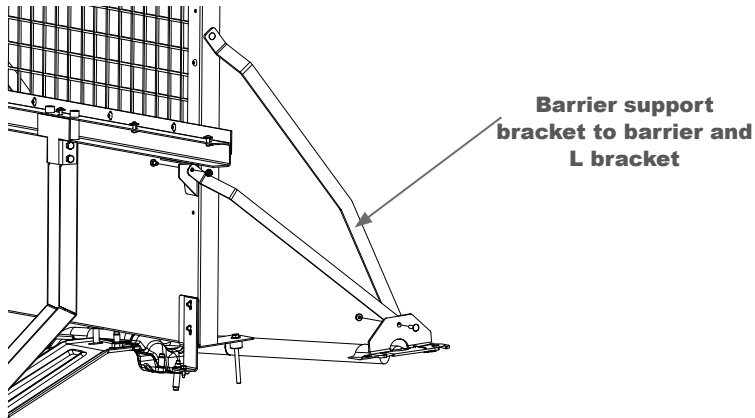

Fig. 6
- D. Now the (3OSB4715-03) barrier support brackets can be attached to the cross bar and barrier. The (3X16Z) nuts in the rear cargo area can be removed and the support bracket installed with bolts at the lower cargo area and upper barrier holes. (See Fig. 6)